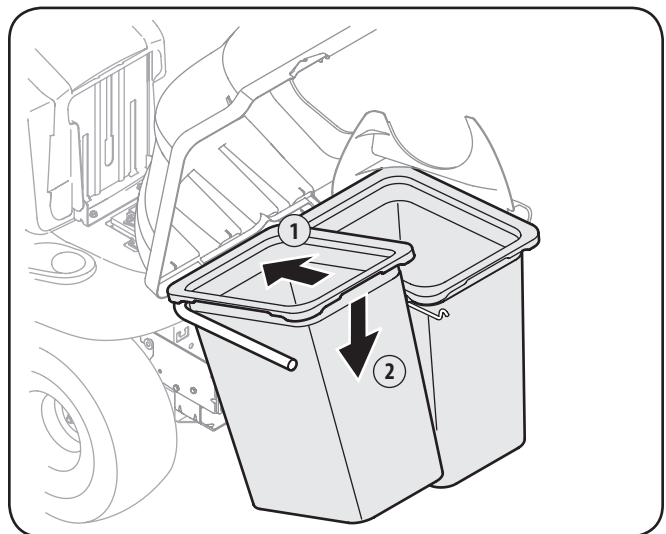

Figure 4-19
- Install both bag assemblies onto the bag support brackets by inserting the front edge in first, as seen in Figure 4-19, and setting the back edge down until it fits into the assembly.